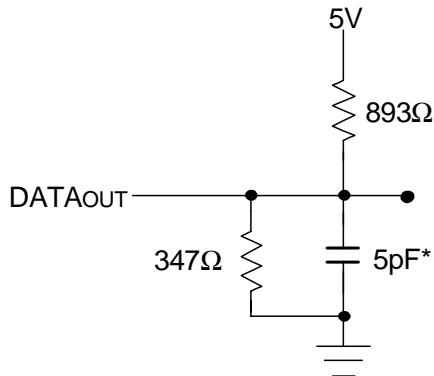

Figure 2. Output Test Load
1. Transition is measured 0mV from Low- or High-impedance voltage with Output Test Load (Figure 2).